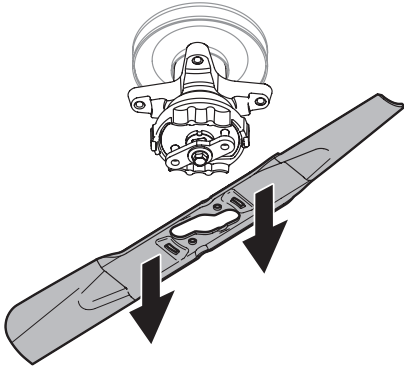

Fig. 49
5. When the hole in the center of the blade aligns with the tractor blade retainer, carefully lower the blade (Fig. 49).